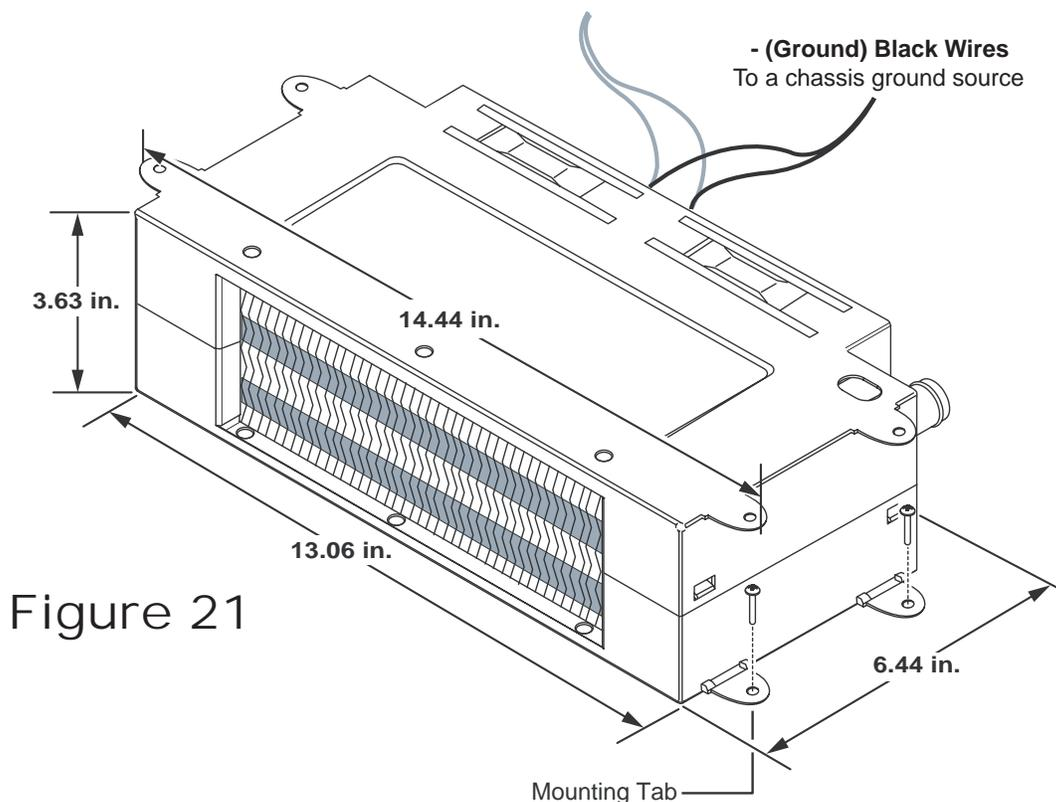

Figure 21
1. Run two 18-gauge wires, red for (+) and black for (-), from each particular heating zone's heat exchanger to the electronic controller. Reference Figure 21.
3. Insert all heat exchanger wires into the appropriate terminal/heating zone location on the electronic controller. Reference Figure 21 and Appendix A.
5. Connect all electronic controller wires to the positive and negative leads of the heat exchanger. Reference Figure 21.